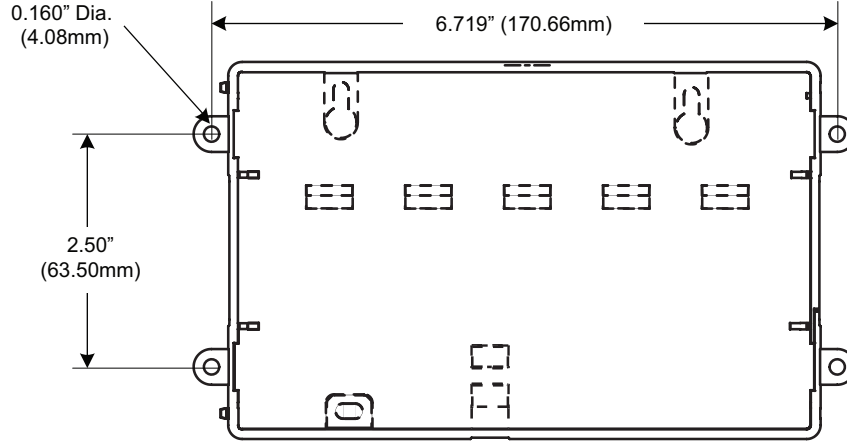

Fig. 2: Tab Mounting Dimensions
- If DIN rail mounting is impractical, you can use screws in mounting tabs on the Segment Manager. Tab dimensions are in Figure 2.